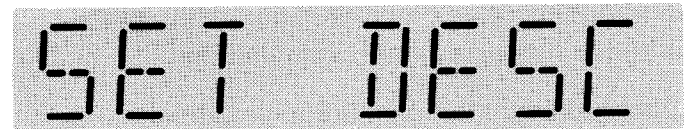

Figure 4-8 Set Description Display
Step 4: Continue using the **Down** or **Next** pushbuttons to move to the **Set Description** display (Figure 4-8).